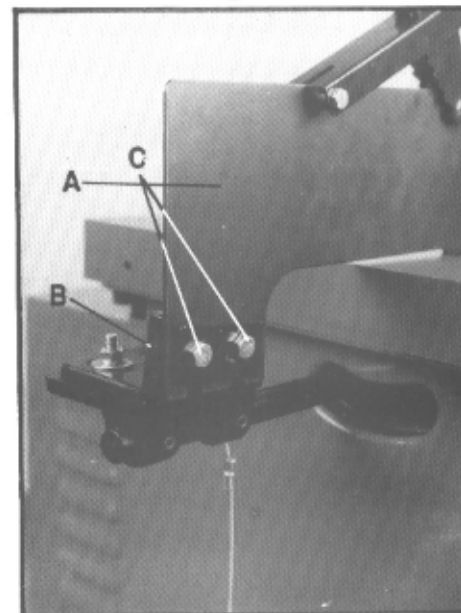

Fig. 6
6. Hold rear tab (A, Fig. 6) of blade guard assembly to the upper blade guard bracket (B, Fig. 6) with two hex cap bolts (C, Fig. 6), and a plate. Finger tighten only at this time.